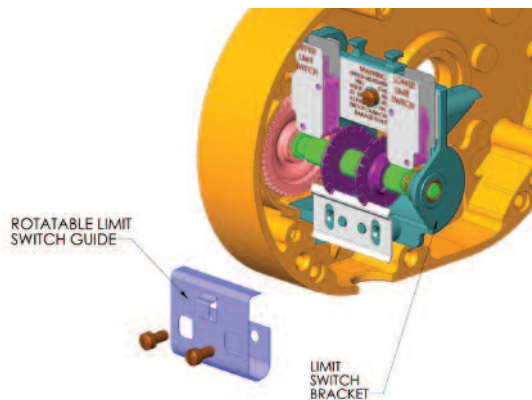

Figure 18A. Rotatable Limit Switches, V1 Models
4. Refer to Figure 18A and 19A and assemble the limit switch guide plate to the limit switch bracket. Secure using the 2 screws.